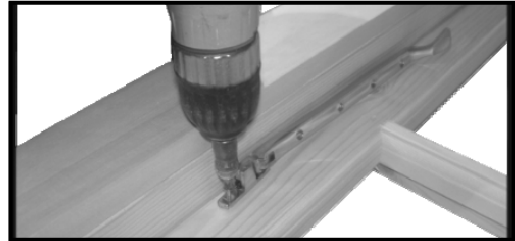

Fig A16
28. At the bottom of each window place a casement stay on top of the draught excluder strip. Visually judge the position of the stay so it looks central. Use a pin to judge how high to position the stay. Fix using 2 x 25mm screws (Fig A16).